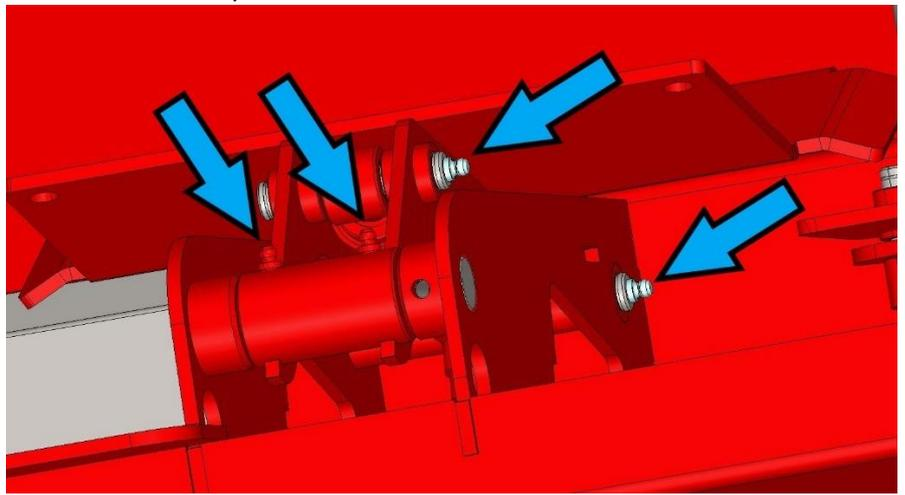

Figure 45.
5. Grease nipples of guide plate 2 (4 pcs, Figure 45).